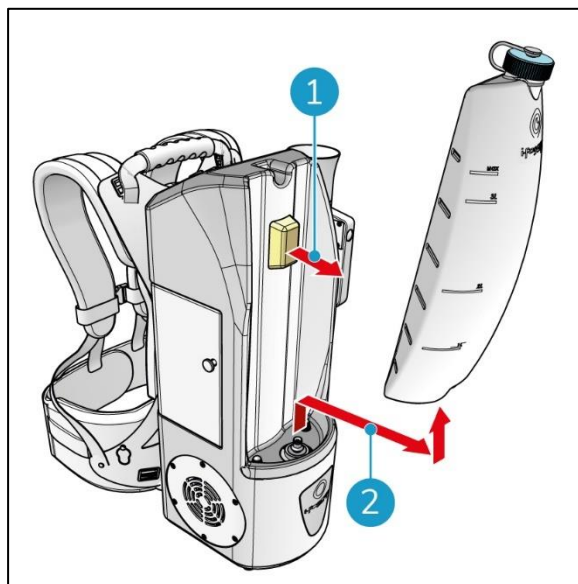

Figure 17
1. Pull the top of the disinfectant solution tank towards you (Figure 17, pos 1).
2. Remove the disinfectant solution tank (Figure 17, pos 2) by pulling it up slightly.